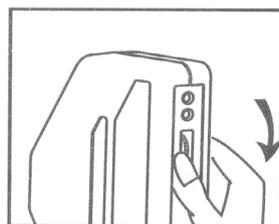

Fig.3
- 3.1.1. Hold the detector as shown in Fig.3. and rotate knob B (Voltage/Metal Detector) fully downwards.